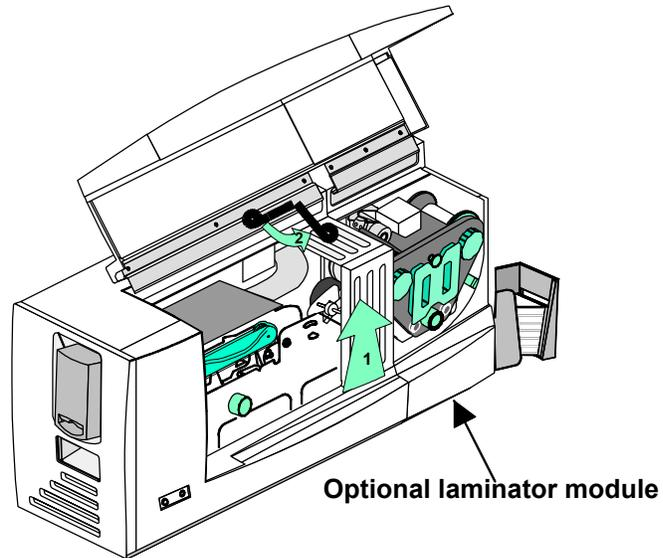

Figure 7-3: Move the top cover support down
- a Lift the top cover and then move the support down so it rests on the internal frame, as shown in Figure 7-3.